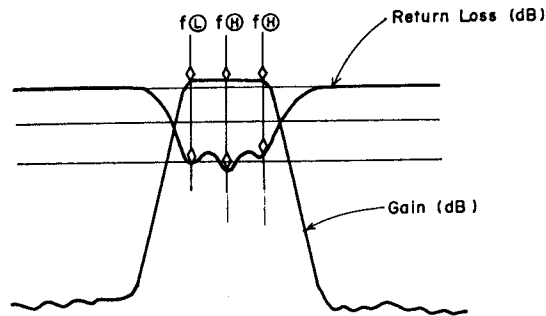

Figure 12 - RF Frequency Response
- (2) Set the sweep frequency of the Network Analyzer to $f(M) \pm 100$ MHz and apply markers to $f(M)$, $f(L)$ and $f(H)$ (see Figure 12).
- (3) Set level of Network Analyzer at -20 dB.
- (4) Set Network Analyzer to monitor mode S11 and S21.
- (5) Adjust FL301 for the minimum return loss (S11).
- (6) Adjust FL302 for optimum gain (S21).
- (7) Low Noise Amplifier (LNA) is inserted between FL301 and FL302. As S12 is about -15 to -20 dB, FL301 and FL302 have mutual effect. So repeat steps (5) and (6) several times.
- (8) The Network Analyzer is shown in Figure 12. The guide line for the return